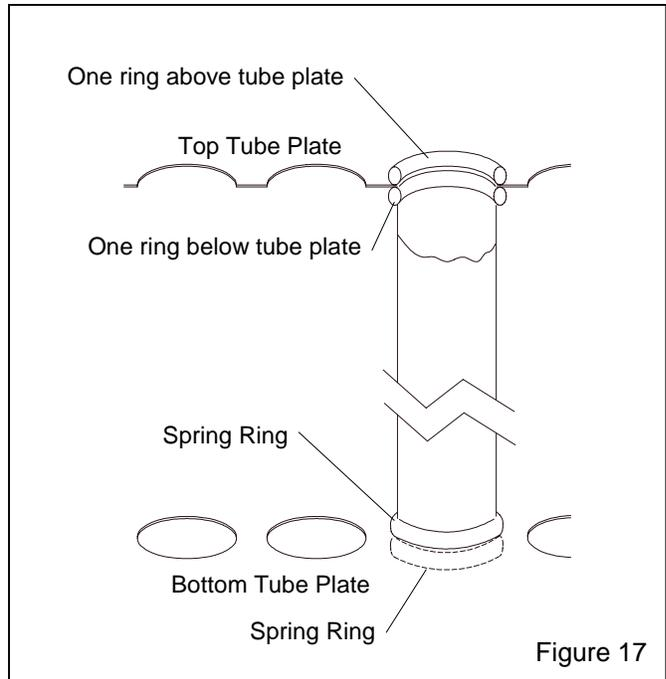

Figure 17
**7.6.1** Replace damaged filters immediately. Remove the old filters by pulling the spring rings off the bottom and top tube plates. Working from the back to the front, install one filter at a time. To install new filters, form the end of the spring ringed tubular filter into a shallow "c" shape, push the filter far enough into the hole of the top plate to allow one spring ring to snap into place above the tube plate and the other to snap into place below it. See the illustration in Figure 17.